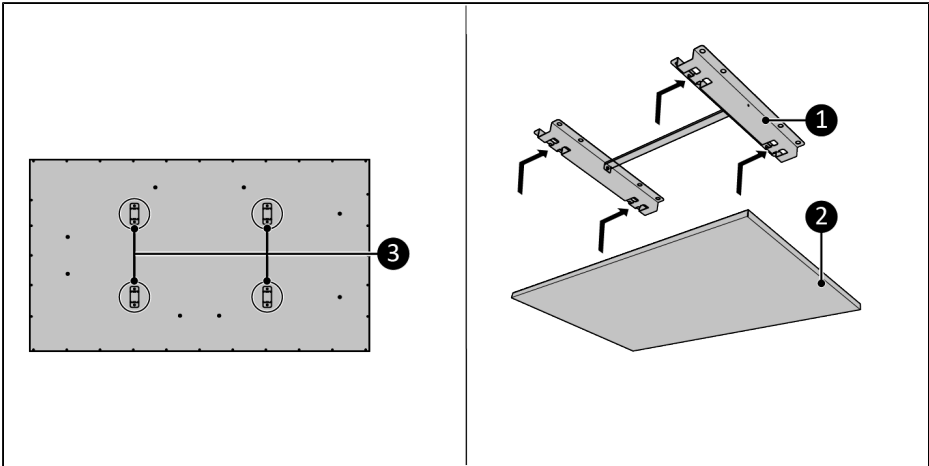

Figure 39.
8. Place the device brackets (Figure 39, pos. 3) over the ceiling bracket (Figure 39, pos. 1).
9. Slide the device (Figure 39, pos. 2) into the openings of the ceiling bracket (Figure 39, pos. 1).